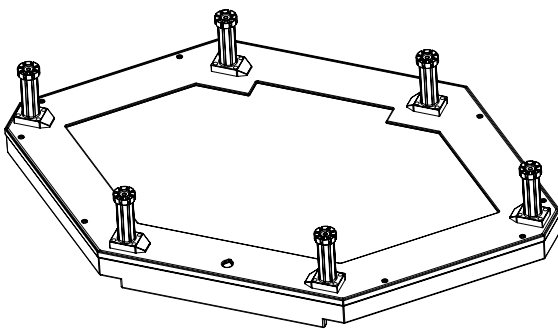

Fig. 8-1
1. For integration into the kitchen begin with the floor element. Preassembly the 6 pcs. Of the adjustable feet into the feet seat (figure 8-1/8-2). Adjustable the floor element to the desired height in relation to plinth height of the kitchen. Check that the floor element is stable and level. The maximum plinth height is 190mm and the minimum is 145mm. The floor element must be stable and level. This is essential to ensure the Corner Fridge will achieve a good seal.